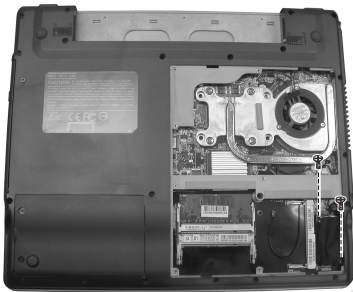

Figure 2-13 Remove the two screws
3. Remove the two screws fastening the modem card. (Figure 2-13)